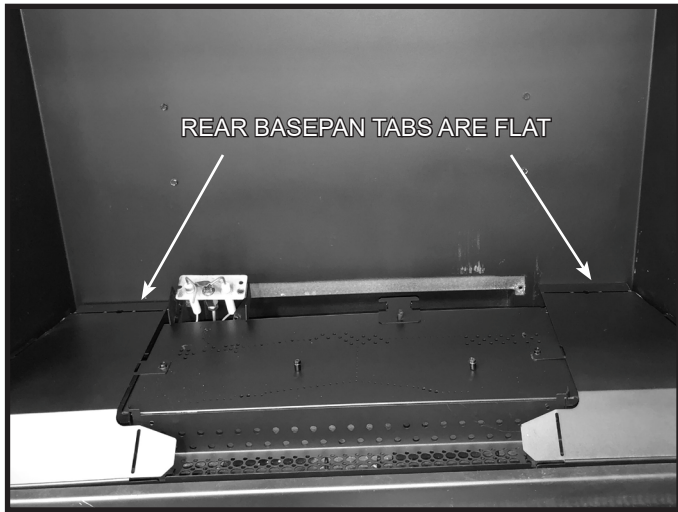

Figure 3 Straighten Rear Tabs
- If the rear tabs on the left and right basepans are bent upward, straighten them so they are flat as shown in Figure 3.